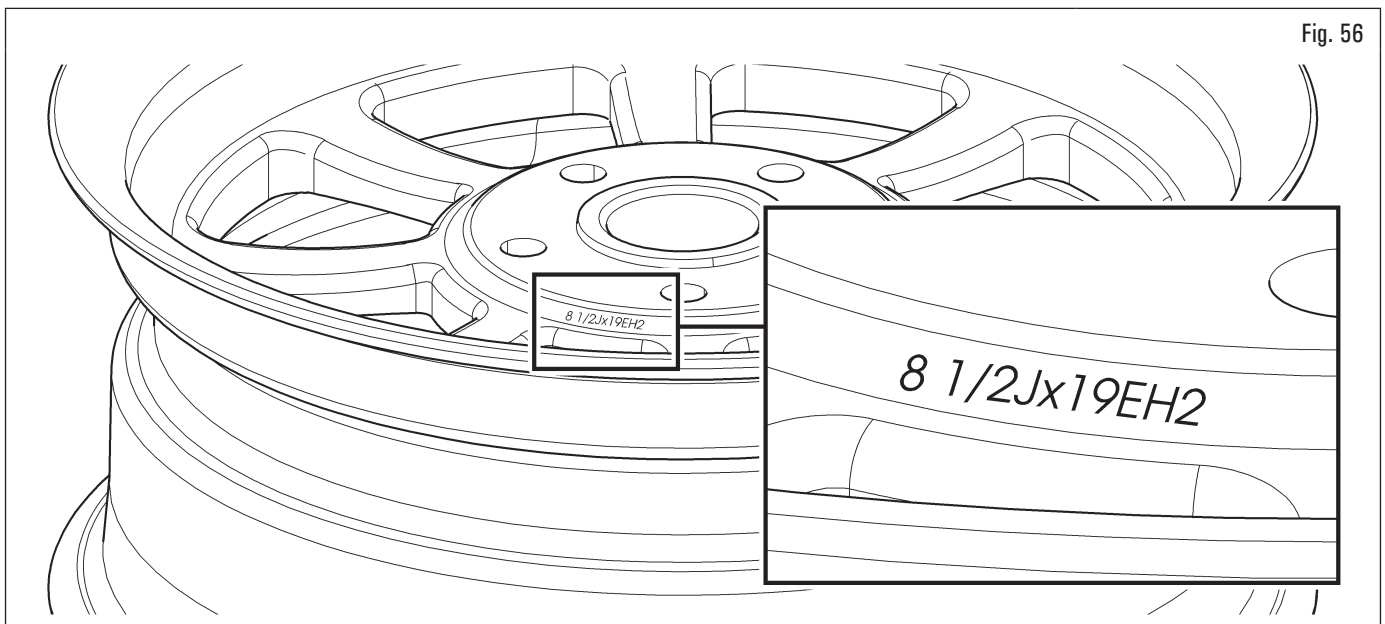

Fig. 56
- Check the dimensions of the rim and the tyre (Fig. 56) and the type of pressure sensor, if present.